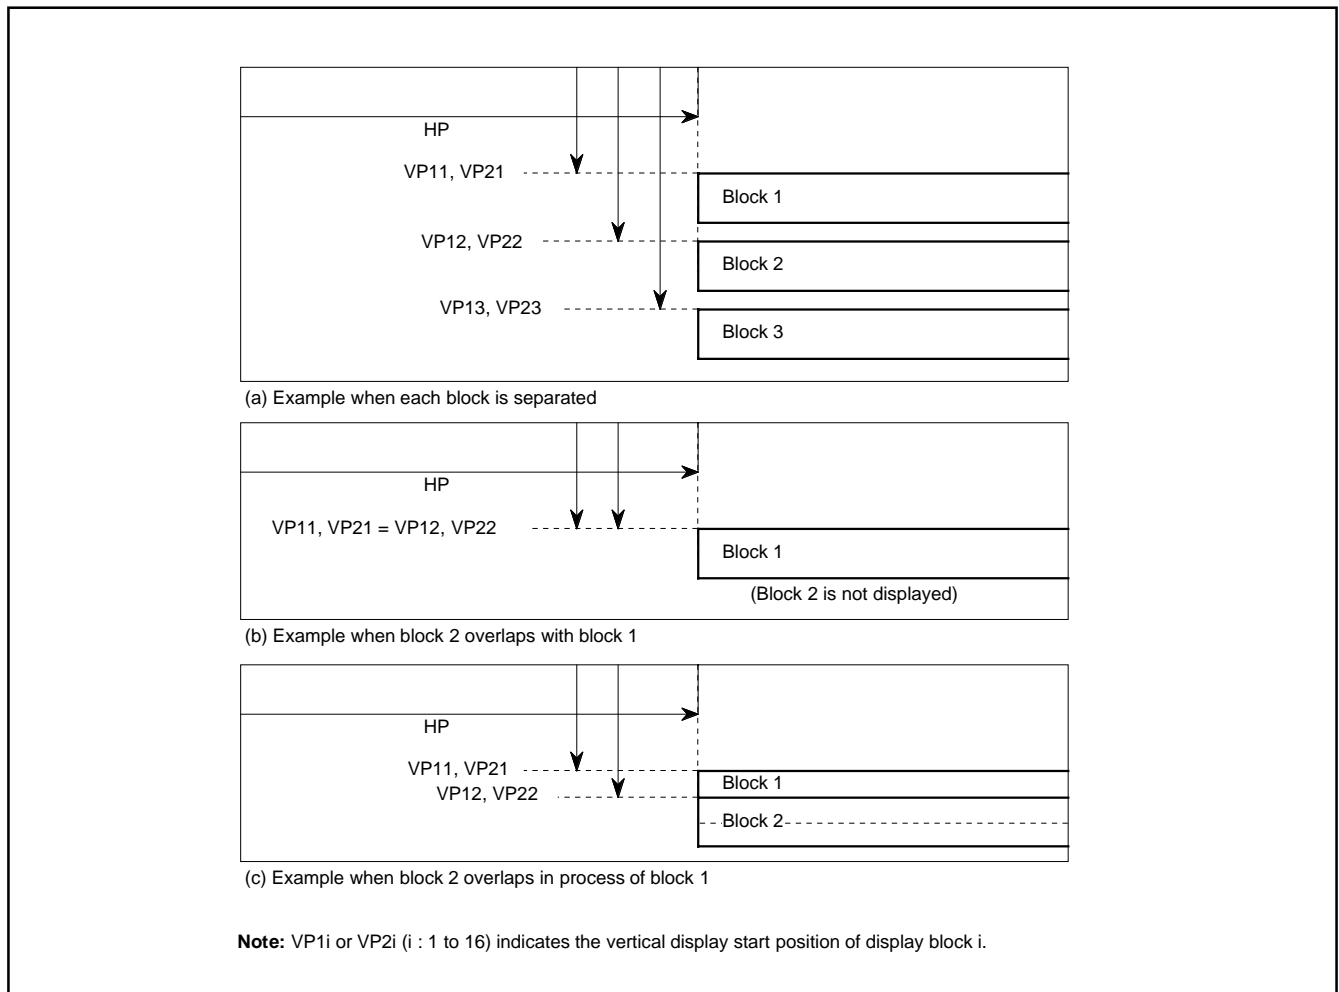

Fig. 8.11.8 Display Position
- When the display start position is overlapped with another block (Figure 8.11.8 (b)), a lower block number (1 to 16) is displayed on the front.
- When another block display position appears while one block is displayed (Figure 8.11.8 (c)), the block with a larger set value as the vertical display start position is displayed. However, do not display block with the dot size of  $2T_c \times 2H$  or  $3T_c \times 3H$  during display period (\*) of another block.